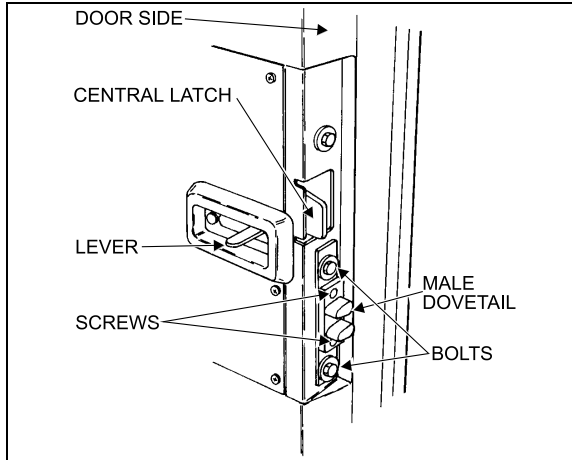

FIGURE 19: DOOR LATCH (COACH) 18059
5. To adjust the male dovetail on L.H. side of the door, remove the two screws and loosen the two bolts. Slide the male dovetail toward the interior and loosely tighten the two bolts. Close the door slowly but firmly, then slowly open it and tighten the two bolts. Attach dovetail to the door with screws. See figure 19.